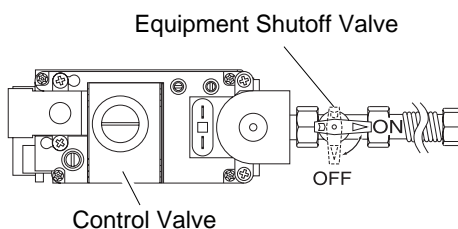

Figure 50 - Turning the Equipment Shutoff Valve to the OFF position
5. Turn the equipment shutoff valve clockwise  to the OFF position (see Figure 50). Do not force.
6. Wait five (5) minutes to clear out any gas. Then smell for gas, including near the floor. If you smell gas, **STOP!** Follow "B" in the safety information in column one. If you don't smell gas, go to the next step.